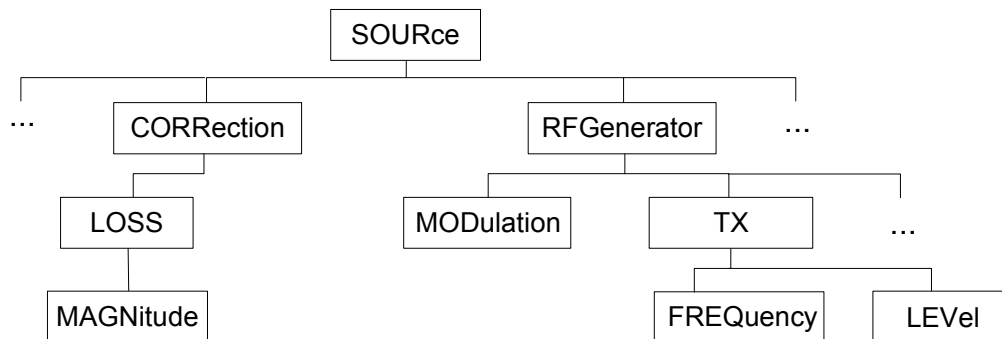

Fig. 5-2 Example for the tree structure of the SCPI command systems; the SOURce system
**Hierarchy:** Device-specific commands are of hierarchical structure (see Fig. 5-2). The different levels are represented by combined headers. Headers of the highest level (root level) have only one key word. This key word denotes a complete command system.